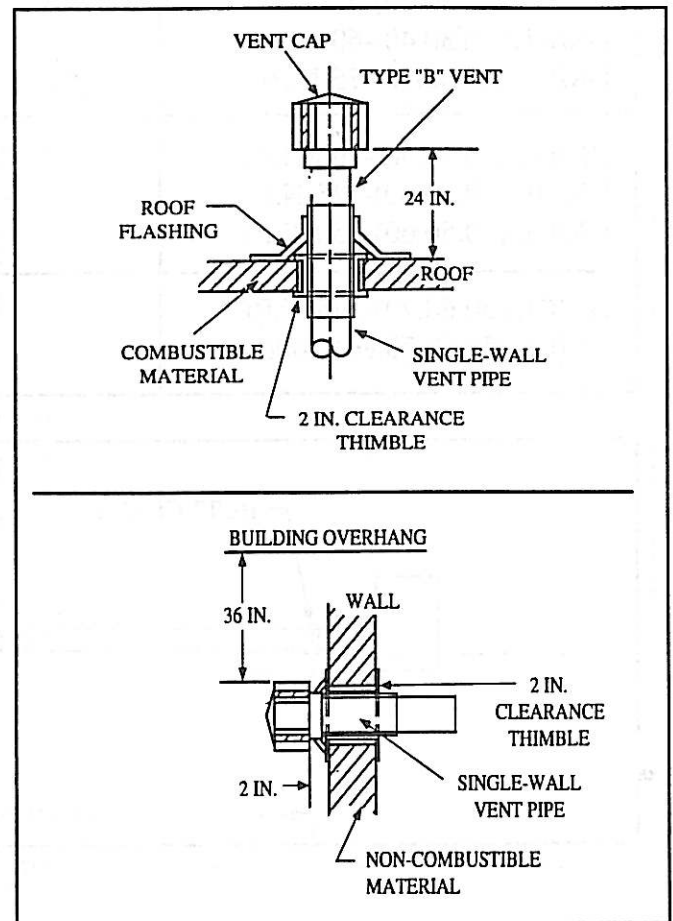

Figure 2-15
- Single-wall galvanized flue pipe or Dura/Connect single wall, flexible connectors must be used. The portion of the flue pipe which goes through combustible material in the building wall or roof must pass through a type "B" vent to maintain clearances (see Figures 2-15 and 2-16).
- Stacks may exit the building either horizontally or vertically. Vertical venting exiting the roof should be 2 ft above the roof. For horizontal venting, the flue should be 2 in. from the sidewall. Care should be exercised to ensure that vent opening is beyond any combustible overhang (see Figure 2-15).